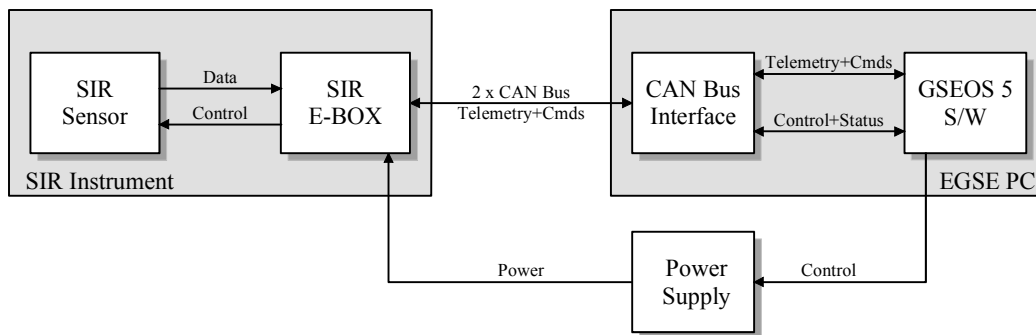

Figure 12: SIR EGSE functional block diagram.
- 3) **Housekeeping:** In this group the H/K data of the instrument is shown. All H/K values are converted to physical units. For some values (e.g. currents) exist in addition a graphical plot (not shown in figure 12).